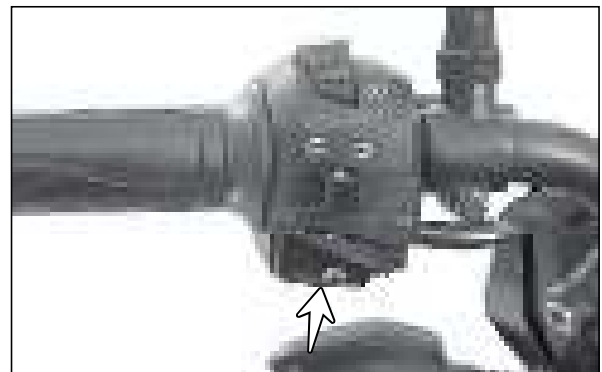

Fig. 5.23
- The horn switch is located on the switch assembly handle LH. (Fig. 5.23)